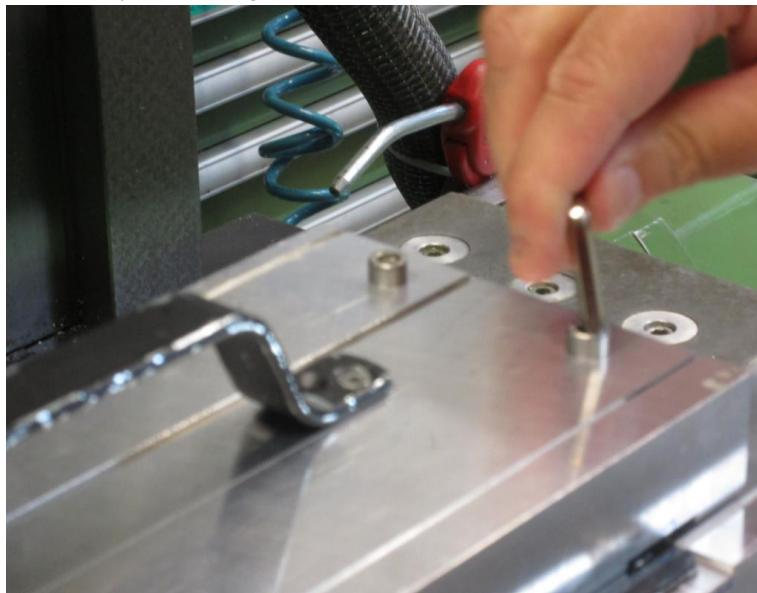

Figure 27 Upper plate screwed to the lower plate
- 4.1.2.2 Place cover plate over mat. Screw it to the lower plate to insure enough pressure on the mat and lock the position (Figure 27).